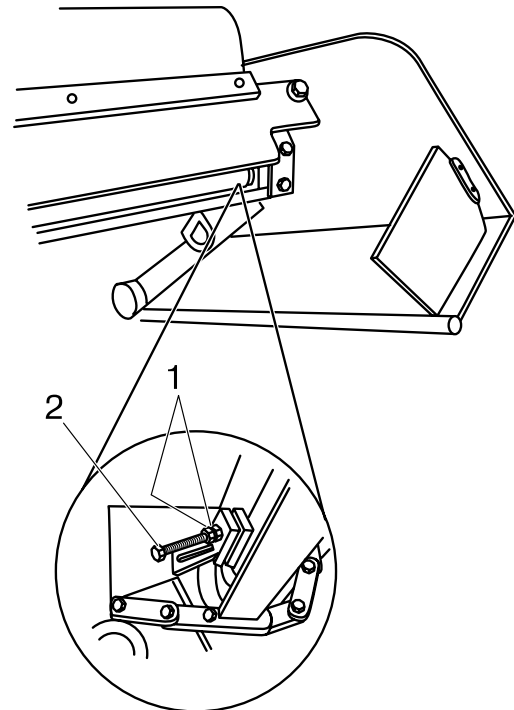

Figure 5-11. Adjusting Bolt
3. Loosen the Locknut (Figure 5-11,1) and bolt holding the Adjustment Roller Assembly.
4. Turn Adjustment Bolts (Figure 5-11,2) alternately on both sides of the conveyor. (LeeBoy recommends turning one bolt one half turn, then the other bolt one half turn. Continue alternating tightening until chains are tight). The pressure on the chain will be noticeable as the bolts are tightened.
5. After the conveyor chain tension is set, tighten Locknut (Figure 5-11,1) and bolt holding assembly.
6. If the adjustment bolts (Figure 5-11,2) have been run out, it will be necessary to remove a link in the conveyor chains and add a half link. This repair should bring the adjustment bolts back to full travel.